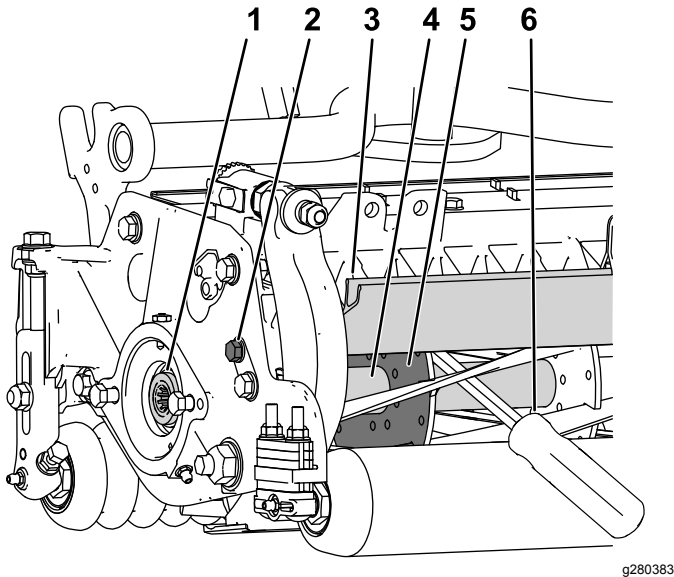

Figure 26
1. Loosen the shield-bolt on the left side of the cutting unit and raise the rear shield (Figure 26).
back of the cutting reel, closest to the side of the cutting unit that you will be torquing (Figure 26).
- Place the pry bar against the weld side of the reel support plate (Figure 26).